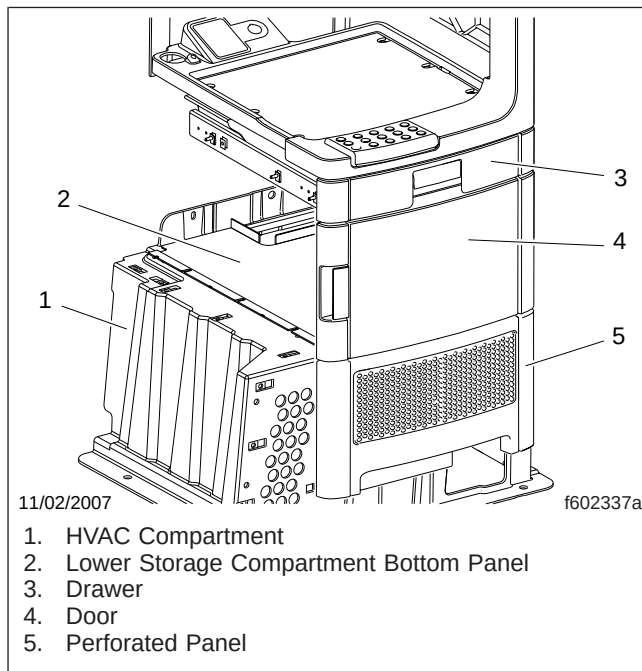

Fig. 1, Sleeper Cabinet Stack
6. Open the lower storage compartment door, and remove the panel on the bottom. See Fig. 1.